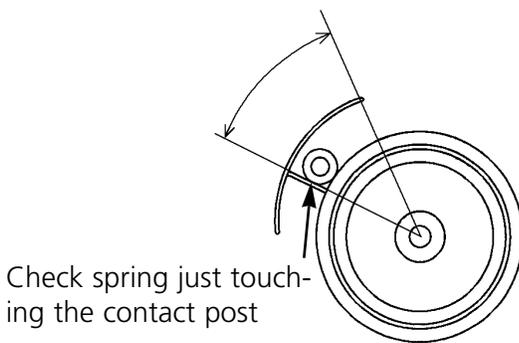

Figure 5-15
2. Rotate the thread tensioner to the position where the check spring is just touching the left side of the thread break contact (see Figure 5-15).